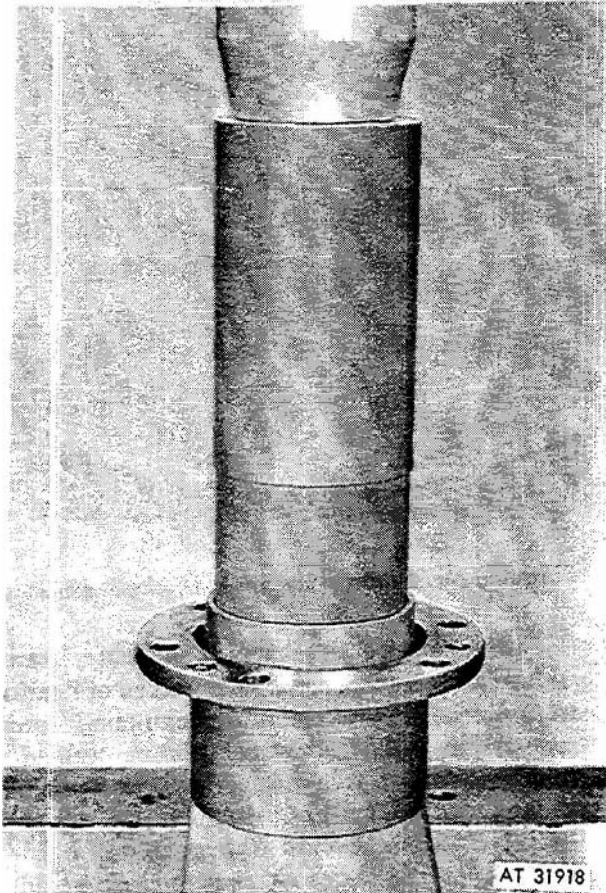

Figure 3-122. Pressing bearing cup into housing.
(30) Press bearing cup of bearing (49, fig 3-88) into housing (50) as shown in figure 3-122. Position shim (52, fig 3-88) on pinion (53) and install pinion in housing. Position spacer (46) and sleeve (44) on pinion and secure with nut (42) and washer (43). Tighten nut to 175-250 lbs-ft. torque and install cotter pin (41).